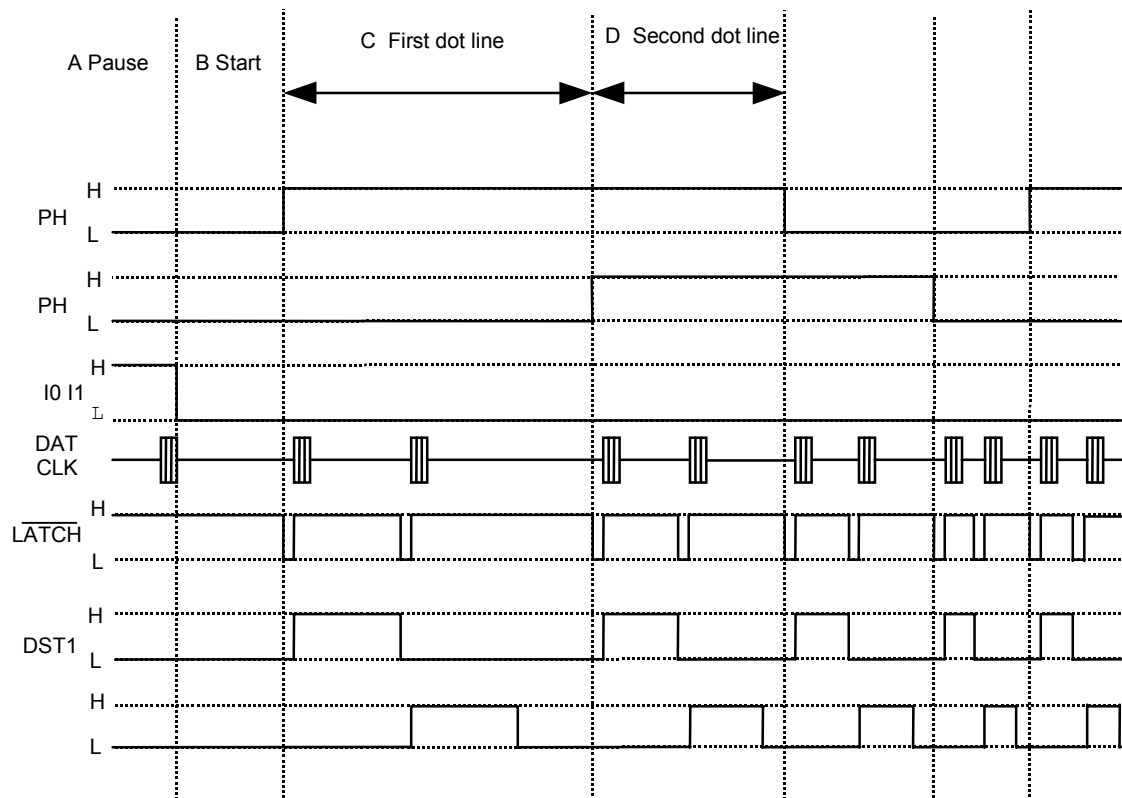

Figure 5-1 Timing Chart for Driving Using Two Divisions
Drive the motor and the thermal head at the same time for printing. **Figure 5-1** is a timing chart for driving using two divisions. **Figure 5-1** is an example of acceleration control of the motor, data transfer to the head and two-divisions of the head.
Timing chart of **Figure 5-1** is explained in order thereafter.
The print data in the First step can be transferred while outputting the Start step (B). However, the print data is transferred before outputting the Start step in **Figure 5-1**.